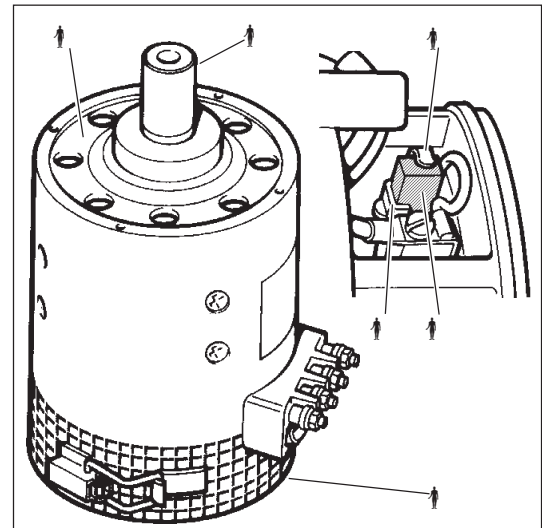

Fig. IV2-2a
- Remove protective screen (item 1).
- Pull all carbon brushes (item 2) out of carbon-brush holder (item 3) until pressure spring (item 4) clamps carbon brushes in place.
- Carefully pull centring plate (item 5) and armature (item 6) out of motor housing. Fig. IV2-2a